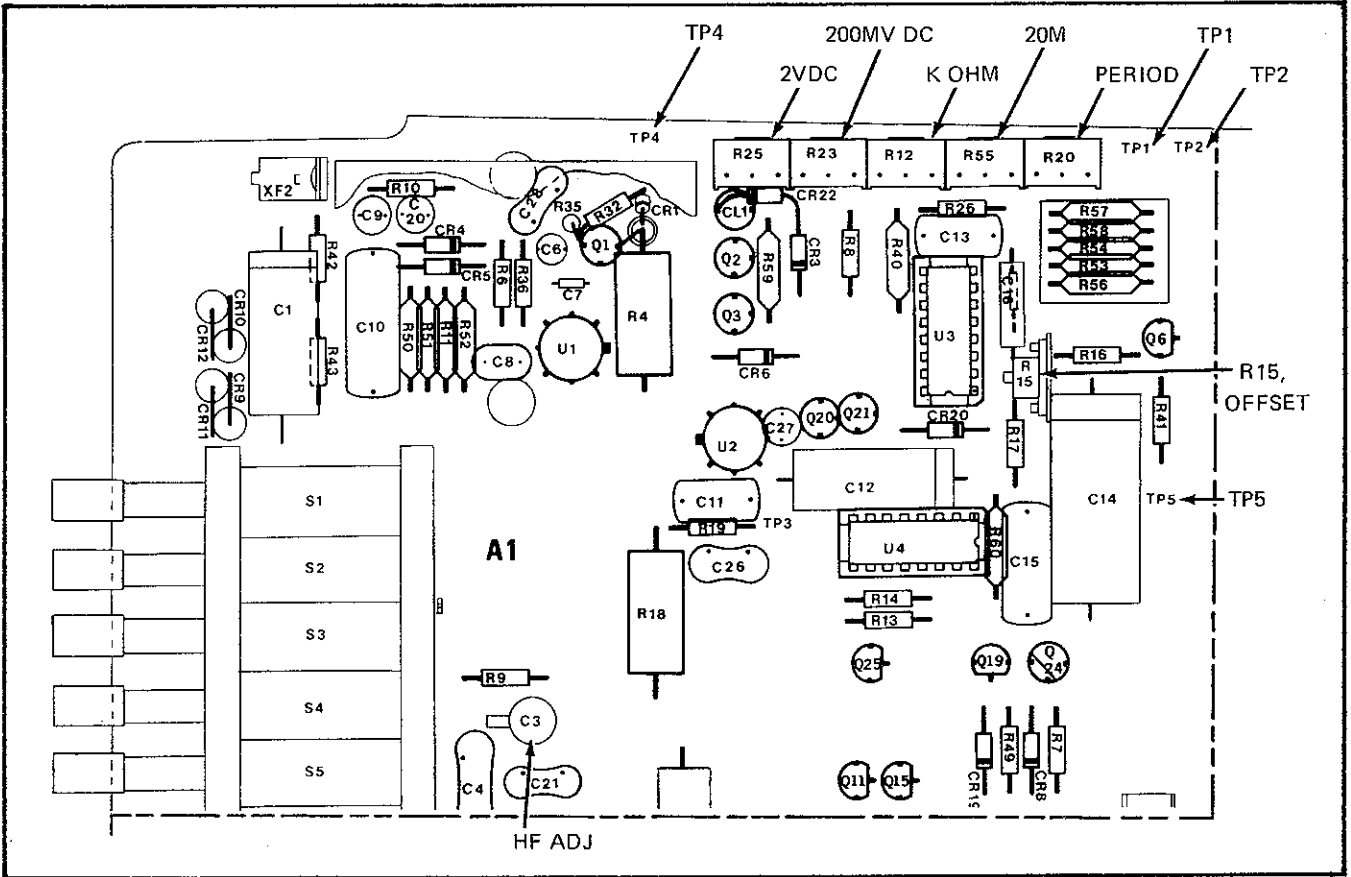

Figure 4-1. ADJUSTMENT AND TEST POINT LOCATIONS
- Connect the frequency counter between TP5 and TP4 (common) as shown in Figure 4-1.
- Using an appropriate adjusting tool, adjust R20 (Period), shown in Figure 4-1, for a time period of 100 ms $\pm 5\mu$ s. Variations of the time period should be $\leq \pm 15\mu$ s.
- Adjust R25 (see Figure 4-1) for a readout of +190.0.
4-32. The 8000A range adjustments are accomplished in accordance with the instructions given in Table 4-3. Perform each adjustment and/or check in the order listed. The shaded areas of the table separate the adjustments from the checks. Refer to Figure 4-1 for the location of the specified adjustment. The following test equipment from Table 4-1 is used to provide the input specified for each function.